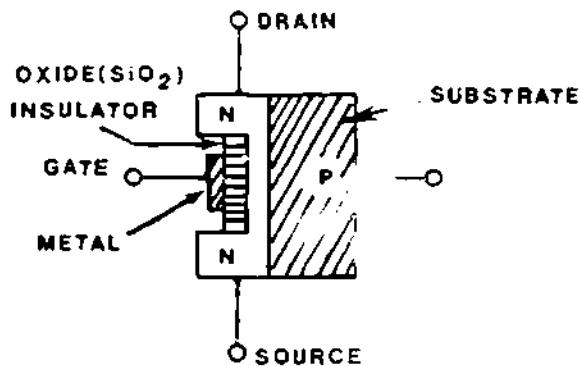

Figure 17
18. Figure 17 repeats the illustration of an N-channel MOSFET.